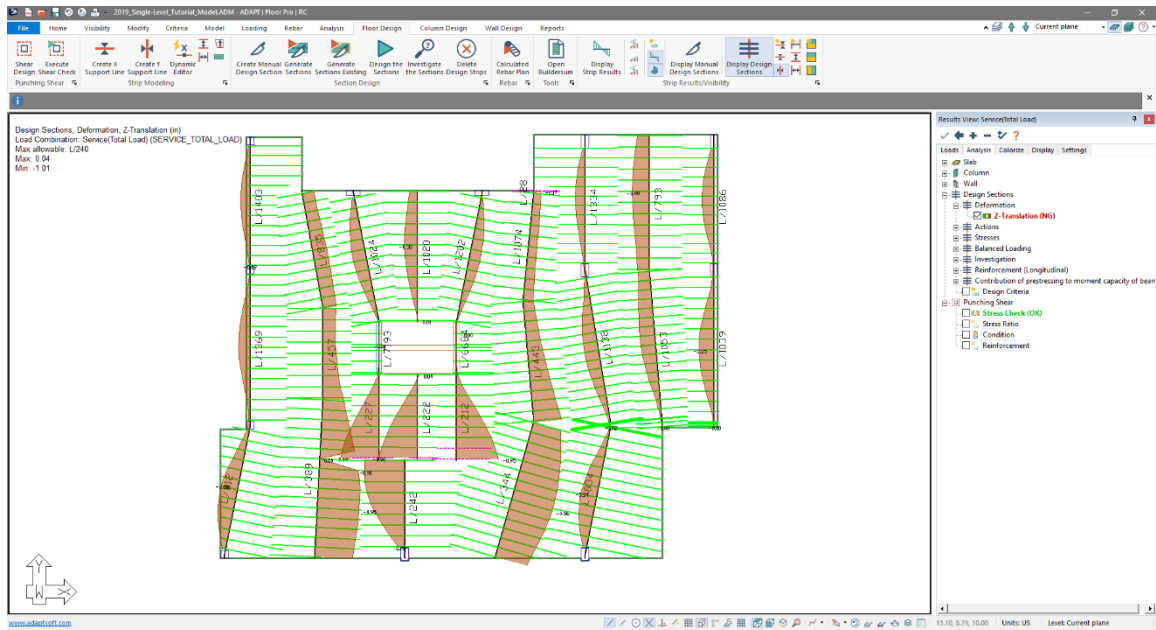

Figure 7-14
- Go to *Floor Design* → *Strip Results/Visibility* click on the *Display/Hide Support Lines in the Y-direction*  icon to turn on the strips, support lines, and design sections in the Y-direction. The user should now see the strip results for the Y-direction support line's deflection check as shown in **FIGURE 7-14**. Note that the deflection check fails in the same locations.